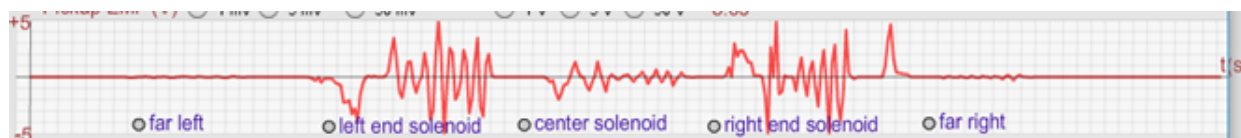

Figure 7: Induced Emf Due to Motion of the Coil
- 2 Using the Sketch label tool, add the phrases “far left,” “left end solenoid,” “center solenoid,” “right end solenoid,” and “far right.” Put these labels beneath the matching parts of the figure. See Figure 7 for guidance.